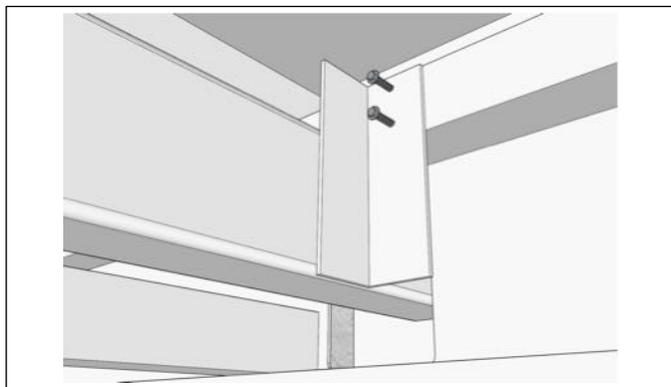

Fig 10
9. Attach connecting bracket to the canopy as shown in (Fig 10) using supplied Tek screws.